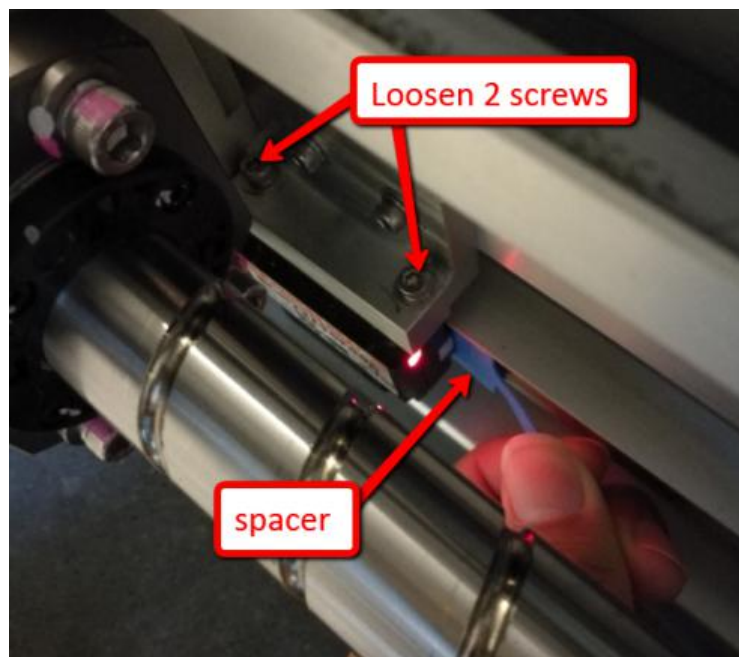

Figure 37
3. Loosen 2 screws and place Read Head encoder spacer between encoder and glass scale as shown in Figure 37.